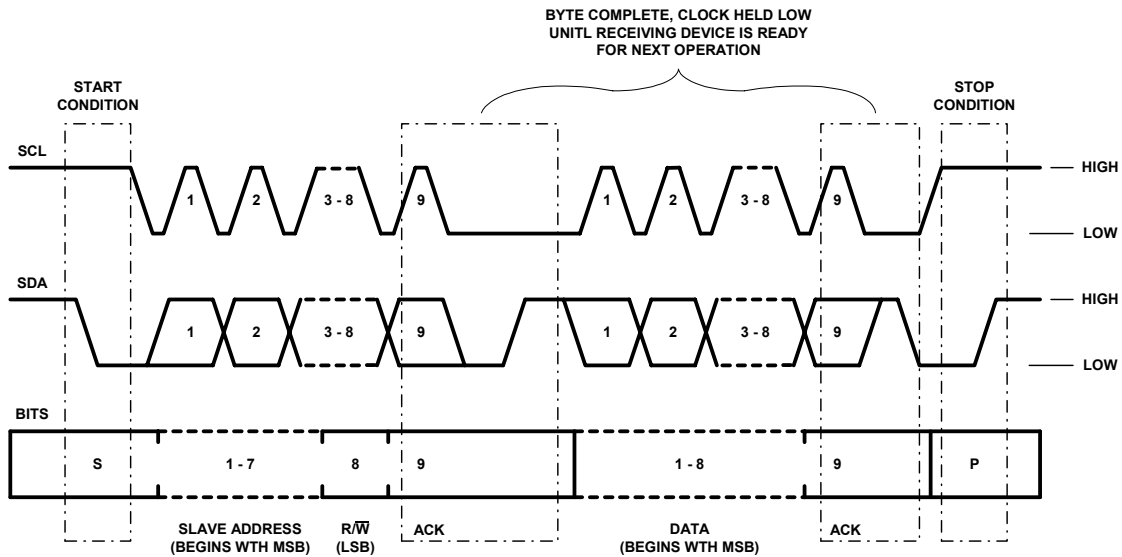

Figure 2. Diagram of a simple data transfer sequence
The data transfer process begins with the Master issuing a START (S) command, which alerts all Slave devices of the pending transfer request. The Master then specifies which Slave device to communicate with and how the data will flow between the Master and Slave. Next, the Master waits for the addressed Slave to respond. When the desired Slave responds, the Master and Slave begin the process of transmitting data back and forth. The transfer process ends with the Master issuing a STOP (P) command. Figure 2 provides a diagram showing a simple data transfer sequence.